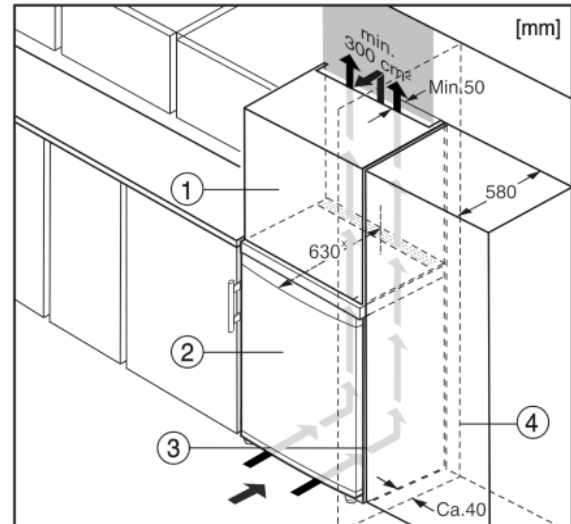

Fig. 6
- (1) Stack cabinet*
- (2) Appliance*
- (3) Kitchen cabinet*
- (4) Wall*
The appliance can be built into kitchen units. A top cupboard Fig. 6 (2) can be added above the appliance in order to bring the appliance Fig. 6 (1) up to the height of the fitted kitchen units.
When installing with kitchen units (max. depth 580 mm), the appliance can be positioned directly next to the kitchen cabinet Fig. 6 (3). The appliance will project by 34 mm * at the sides and 50 mm * in the centre of the appliance in relation to the kitchen cabinet front.
If the appliance is installed with the hinges next to a wall Fig. 6 (4), the distance between appliance and wall has to be at least 40 mm. This corresponds to the projection of the handle when the door is open.*